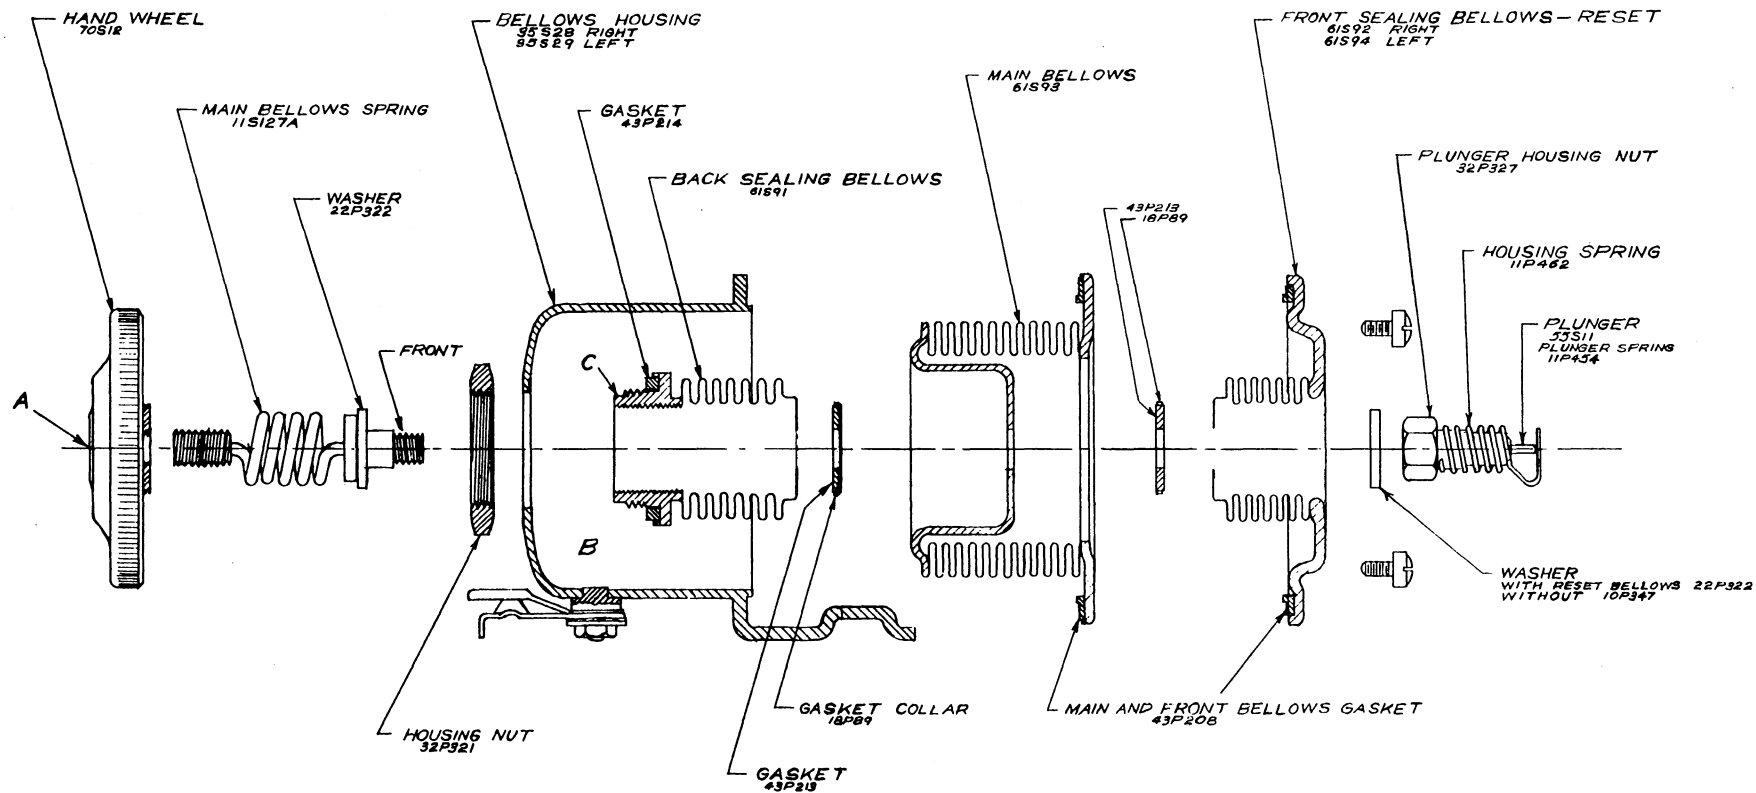

Fig. 8
- (a) Remove the sensitivity adjusting unit assembly (14) from instrument case by loosening the mounting screws. Also disconnect the air lines to the unit.
- (b) Refer to Fig. 8.